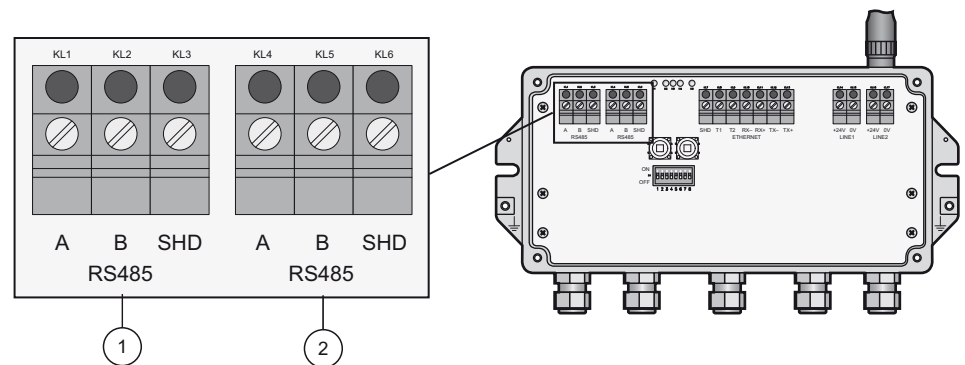

Fig. 5-4: RS-485 interface
- 4 Connect the RS-485 cable to the left terminal block labelled "RS485" (see Figure 5-4) as follows: